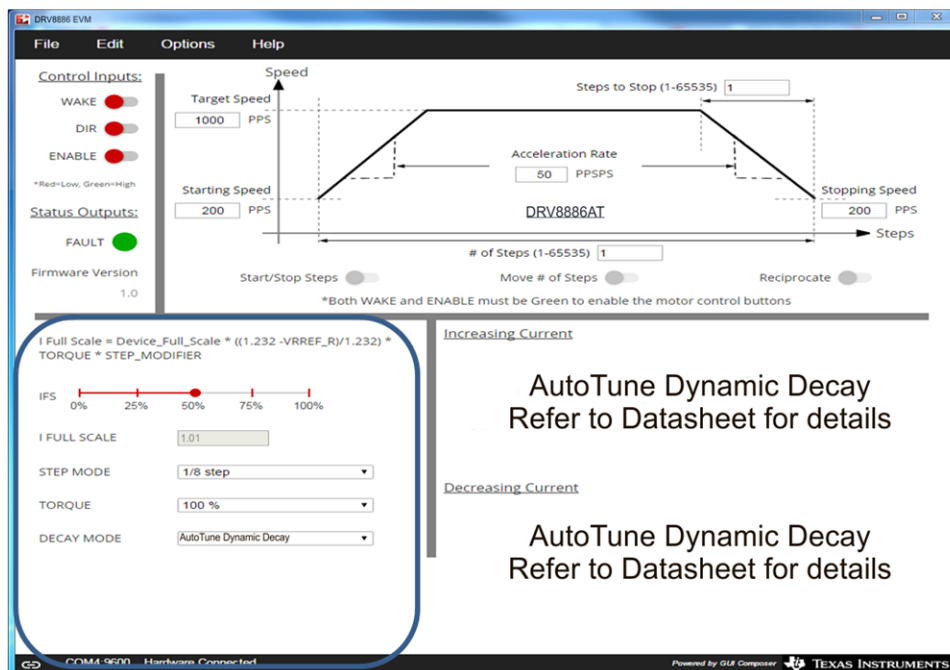

Figure 3. GUI at Startup
- Step 7. Configure the current settings, step mode, decay mode, and torque to the desired values as shown in Figure 3.